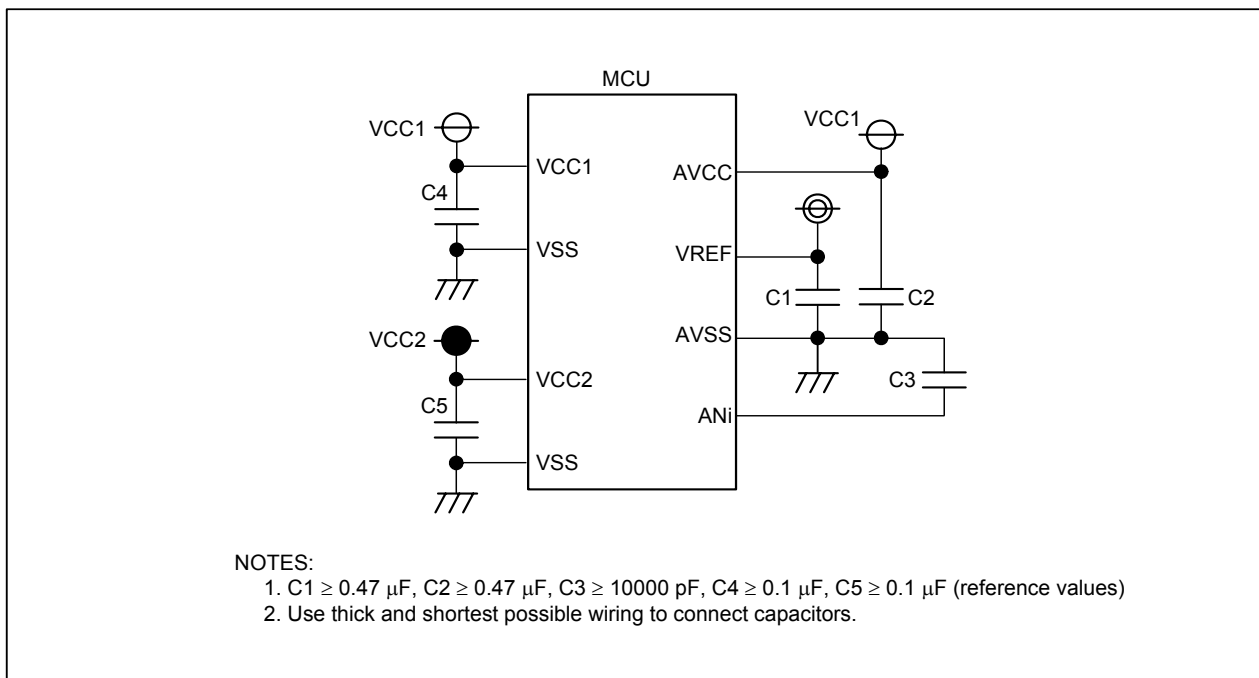

Figure 28.5 Individual Pin Handling
- To prevent latch-up and malfunction due to noise and also to minimize a conversion error, insert a capacitor between the AVSS pin and each of the following pins: the AVCC pin, VREF pin, or analog input pin ANi_j (i = none, 0, 2, 15; j = 0 to 7). Insert a capacitor between the VCC pin and the VSS pin as well. Figure 28.5 shows an example of individual pin handling.